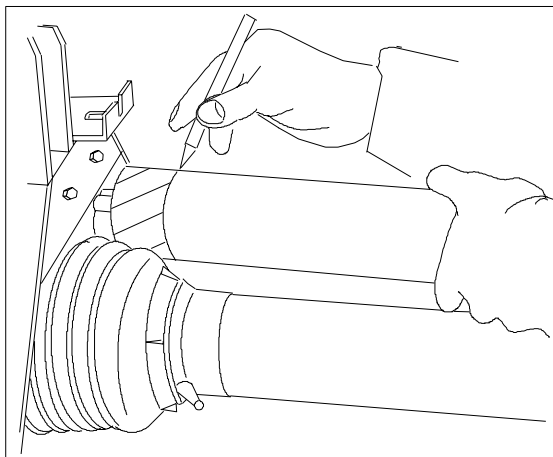

Fig 6.
- Connect one shaft half to the chipper's PTO and the other half at the tractor's PTO. Lay the other PTO half on its side so that the end of the shaft is one inch from the PTO-end of the chipper. Mark lengths required. The tubes must be shortened so that they cannot reach the bottom when the chipper is lifted or lowered. Cut the plastic shield. See fig.6.-7.